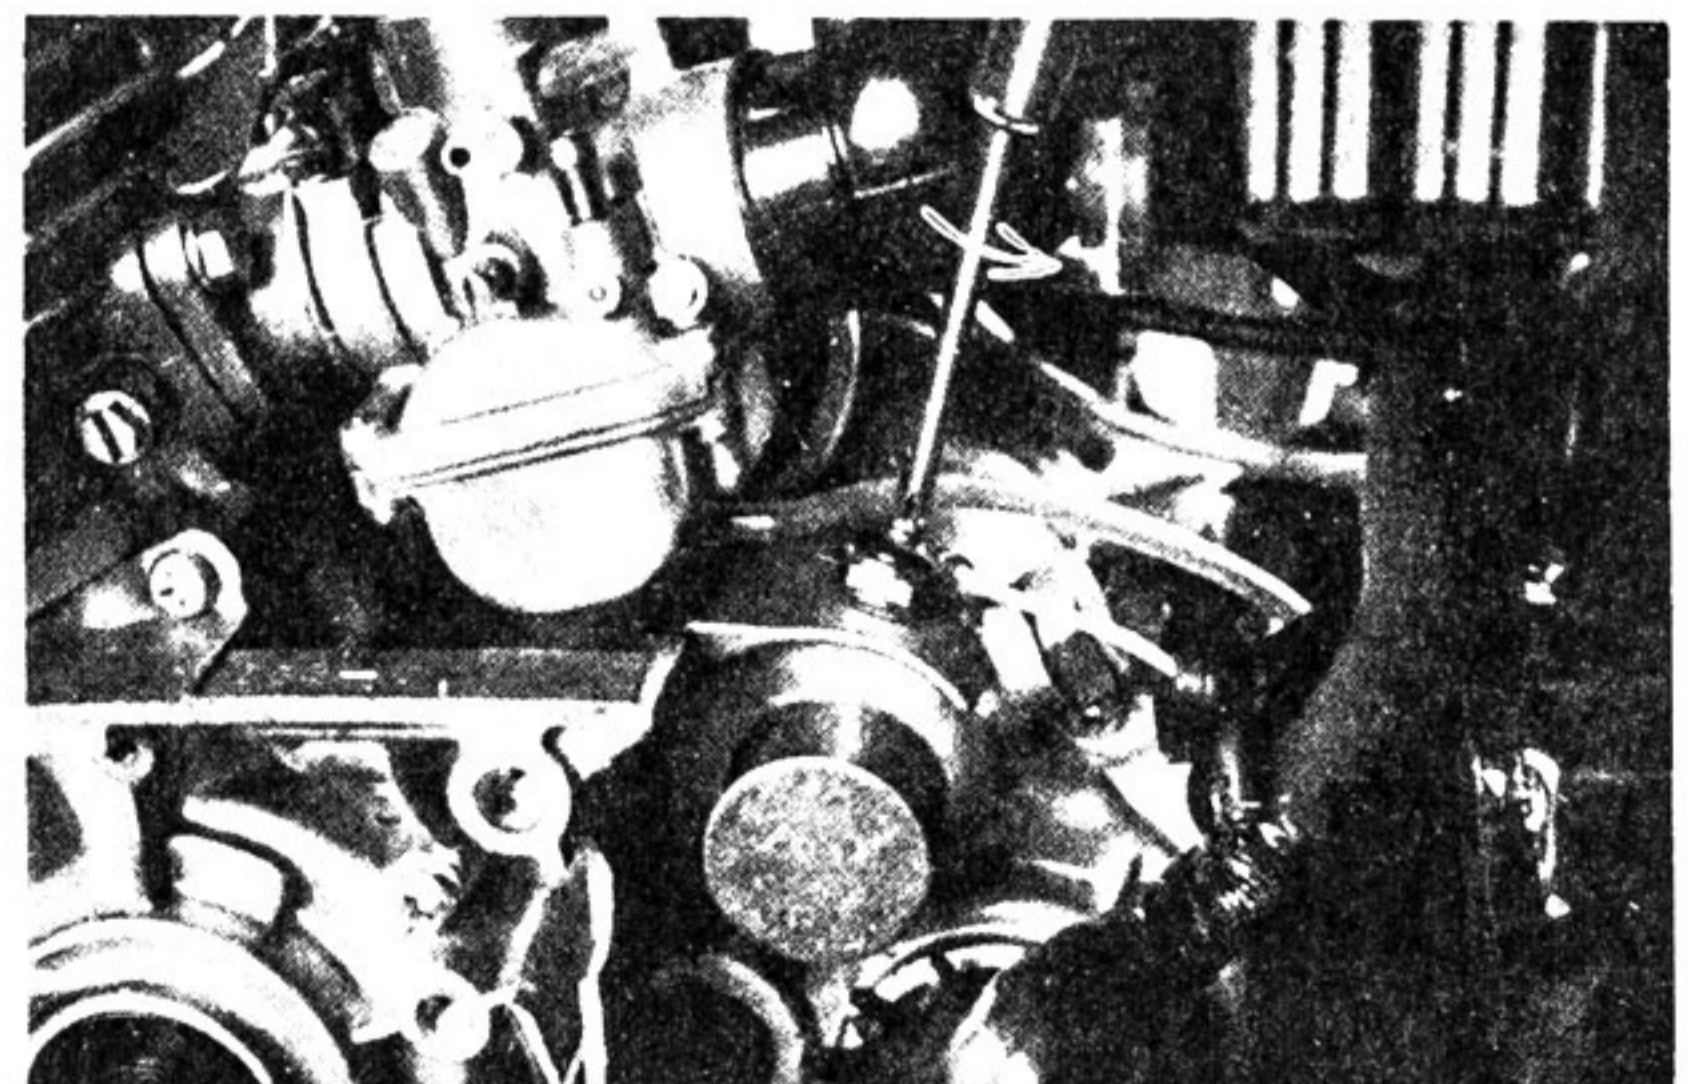

Fig. 4-1-12
8. Remove the neutral light wiring. (Fig. 4-1-12)